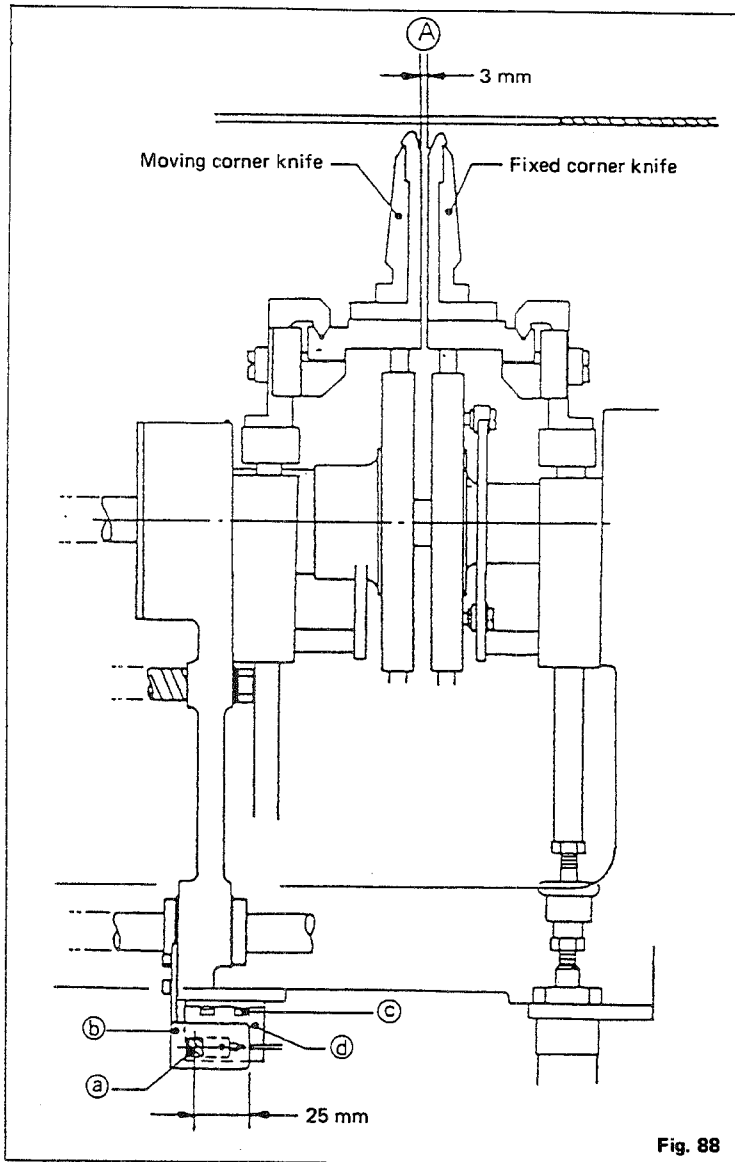

Fig. 88
Provide a clearance (A) of 3 mm between the fixed corner knife and moving corner knife at the sewing start point as shown in Fig. 88.